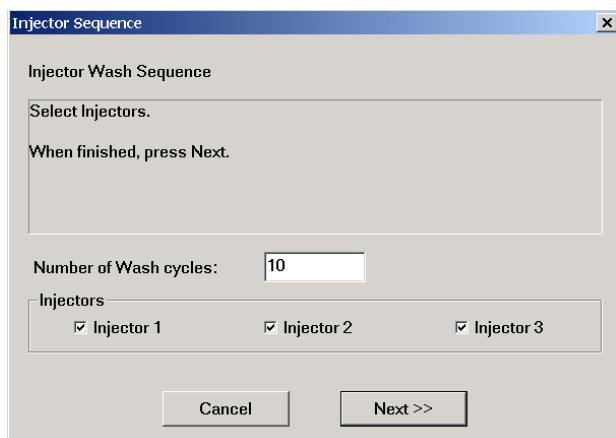

Figure 5-15: Selection of injectors and definition of the number of wash cycles
- Select the injectors you want to wash. All 3 injectors can be selected at the same time (Figure 5-15).